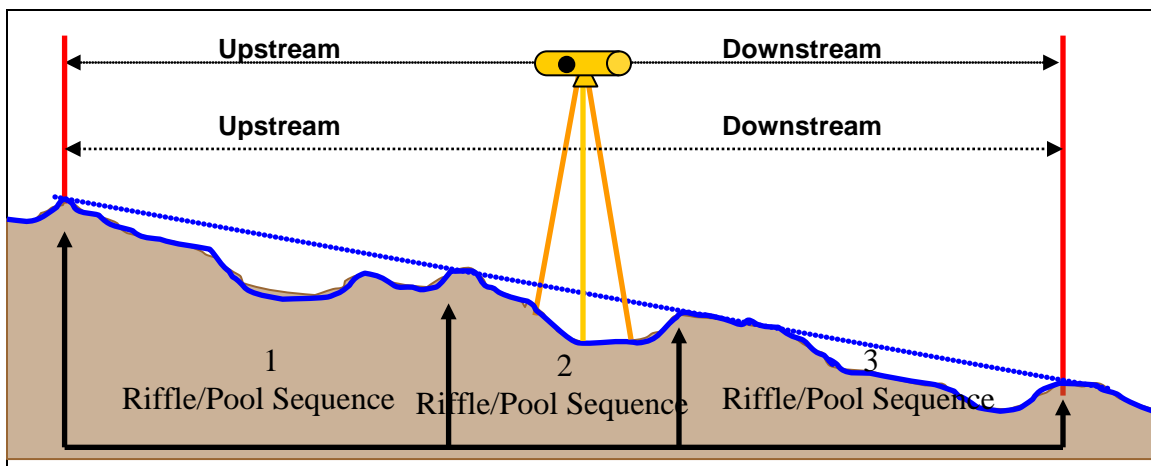

Figure 10 – Measuring slope
- **Note:** Ideally the distance between the two readings would include at least two riffle pool sequences (Figure 10). If this cannot be achieved from the location on the bank where the level is set to read the cross section (e.g. brush obscures line of sight, creek bends, etc.), wait until you've completed surveying the cross section then move the level to a location that allows a better view both up and downstream - this may be in the channel itself rather than on the banks (**Option 2**).
- Locate the furthest riffle upstream of the cross section that is within your line of sight. Measure, along the centerline of the bankfull channel\*, the distance from the cross section to the beginning of that riffle (Figure 10). This is your **Upstream Distance** — record it on the data sheet.
- At the beginning of the riffle, have one person hold the stadia rod right on top of the water's surface (use a rock or the toe of your boot to set it at this level), while the other person takes a reading of the stadia rod with the level (Figure 10). This is your **Upstream Reading** — record it on the data sheet.
- Similarly, locate the furthest riffle downstream of the cross section that is within your line of sight, and repeat the same steps to measure your **Downstream Distance** and **Downstream Reading (Figure 10)** — record those on the data sheet.